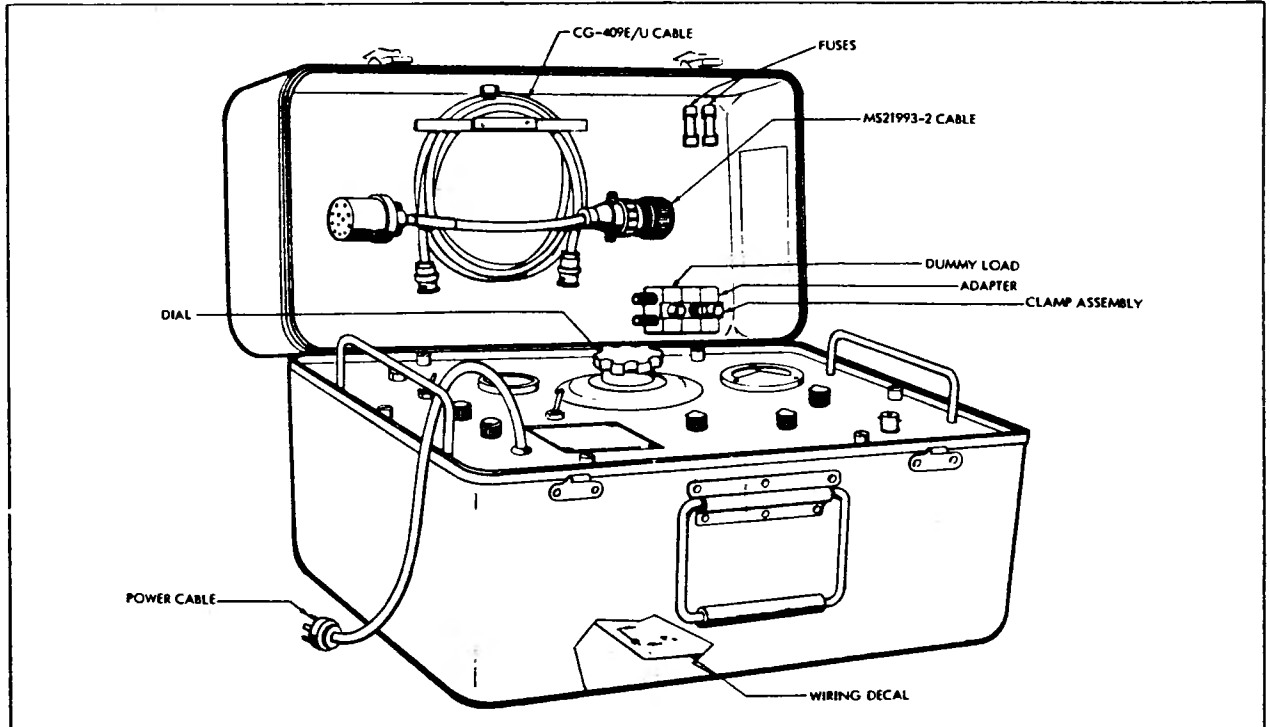

Figure 1-1. Signal Generator, Part No. SG334
1-1. IDENTIFICATION. (See figure 1-1.)
a. Inspection of Components. Open the top cover of the signal generator and check that all components are intact as shown in figure 1-1. Check that correct fuses are in both .25 AMP fuseholders.
a. Reinstall all accessories in signal generator as shown in figure 1-1 and close cover.